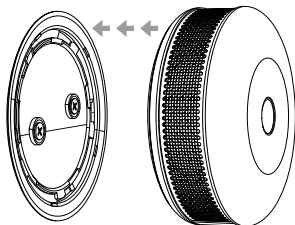

Fig. 6
- 9) Attach the device to its cover (Fig. 6).